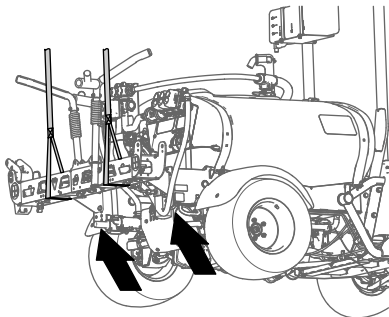

Figure 43
- 2. Support the center-spray section with lifting equipment with the specified capacity (Figure 43).